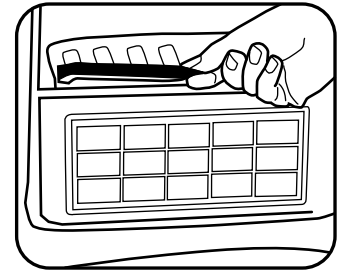

Fig. 10
- Remove the secondary filter and replace with a new filter (Fig. 10).